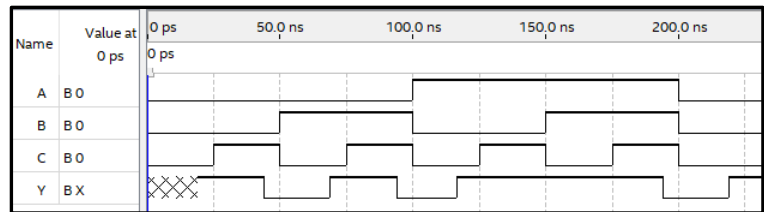

Figure 11: Output of Timing Simulation
4. **Unfortunately, Quartus Prime Lite 18.1 does not support timing simulations for the MAX 10 devices that we will be using this semester. This may change in the future versions of Quartus Prime Lite. Because of this, you can only perform functional simulations for the MAX 10. But Quartus Prime Lite does support timing simulations for all of the MAX V parts. Therefore, you can and should perform the timing simulation below using any MAX V part in items 5-7 below.**
6. Zoom in on the window. You should see something similar to Figure 11.